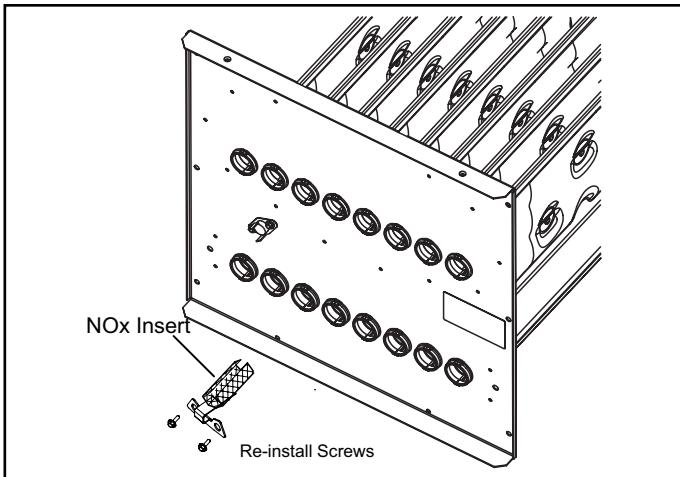

Figure 1. NOx Inserts
- b. Remove the screws which secure each of the NOx inserts to the clamshell. Remove the NOx inserts and reinstall the screws. See Figure 1.